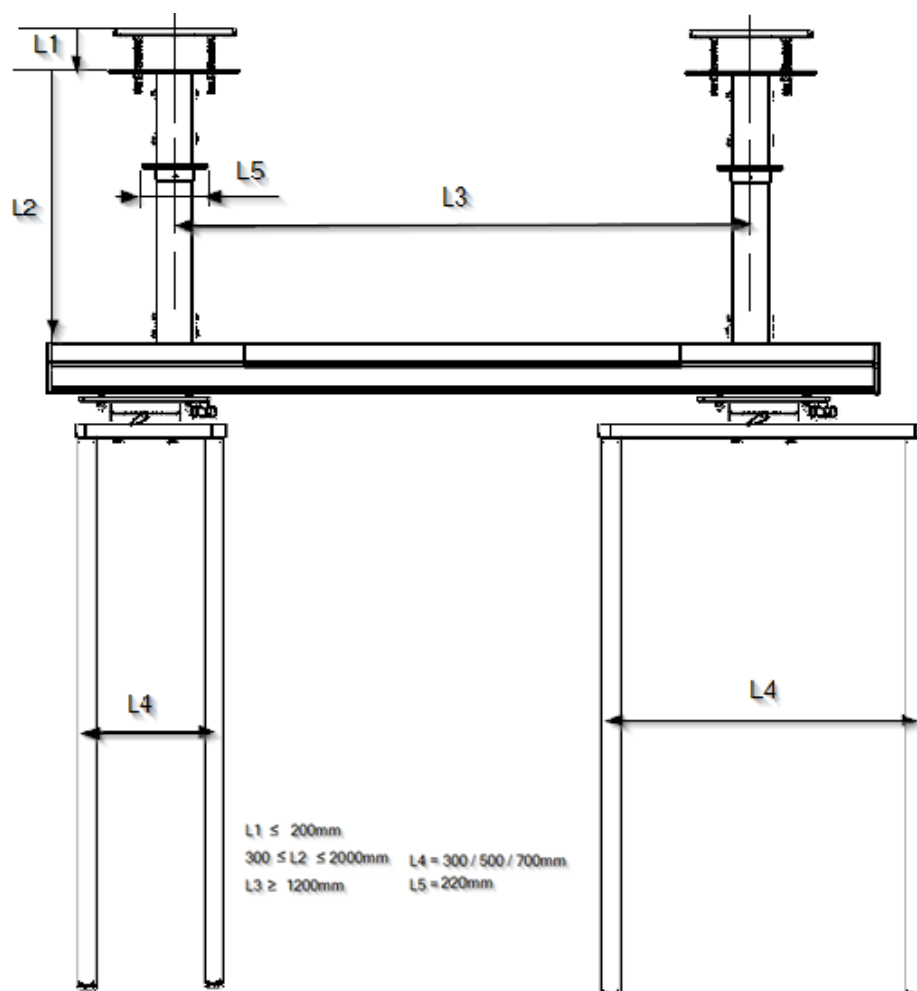

Fig.8 Diagram of suspended TOR with two element carriers
- To increase the braking force on the rotation axis, turn the rotation brake lever clockwise as shown in figure 8.
- To reduce the braking force on the rotating shaft, turn the rotation brake lever counterclockwise, in the opposite direction to that shown in figure 8.
- To increase the braking force on the drive shaft, turn the rotation brake lever clockwise as shown in figure 8.
- To reduce the braking force on the drive shaft, turn the rotation brake lever counterclockwise, in the opposite direction to that shown in figure 8.